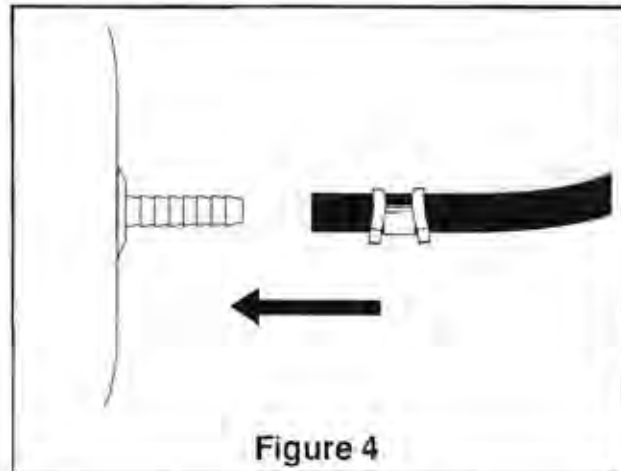

Figure 4
F. With pliers slide the hose clamp forward until it fully covers barbed section (Figure 4).